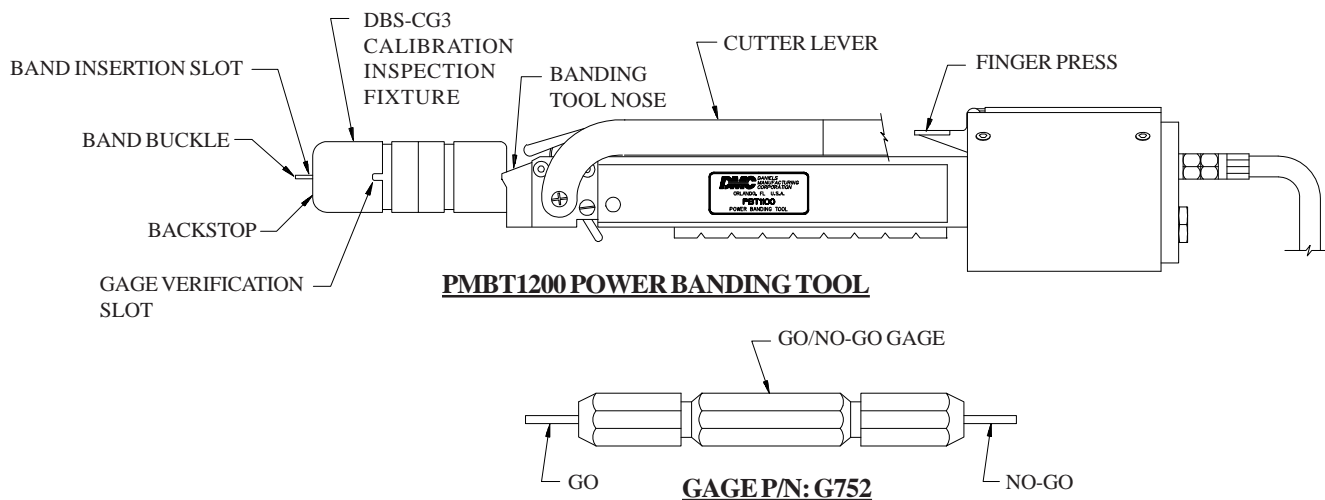

FIGURE 4
- 2.1.1 Place the calibration inspection fixture (DBS-CG3) and the power banding tool (PMBT1200) so that they may be oriented as shown in Figure 4.